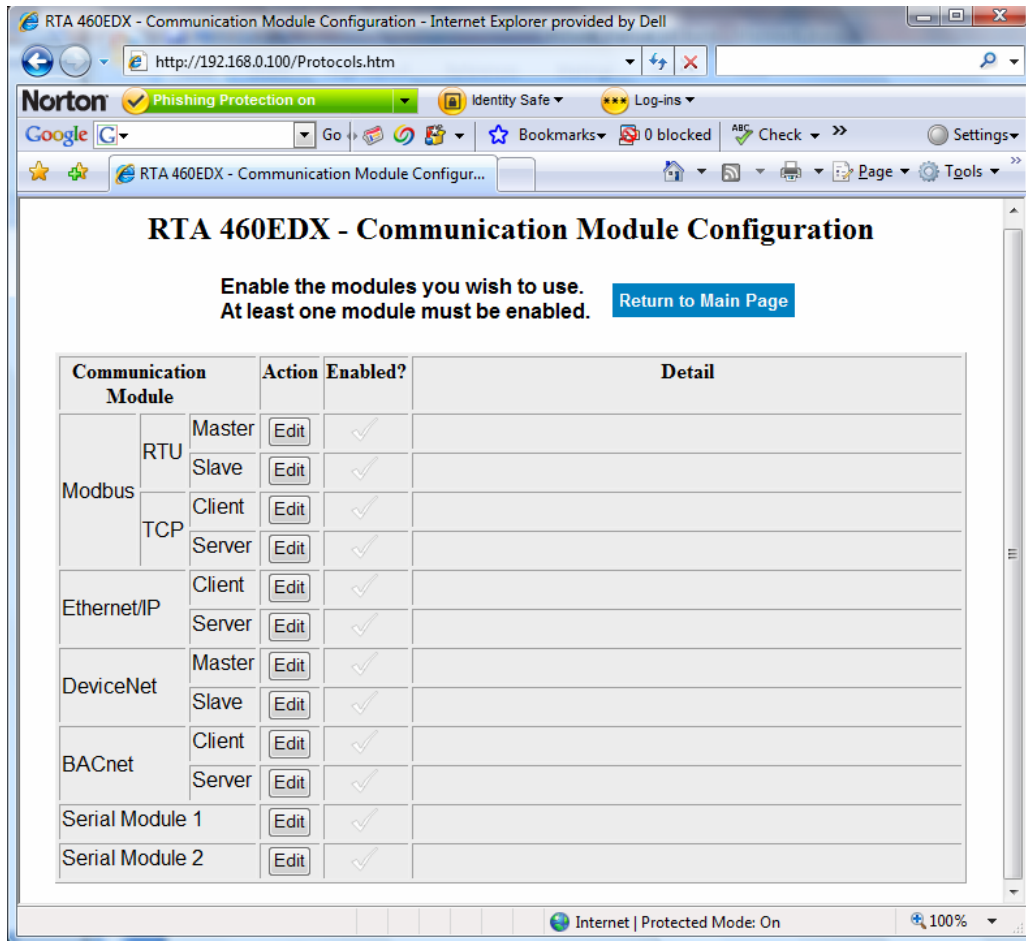

Figure 2-25 Communication Module Configuration screen
1. Click on Edit next to the **Selected Communication Modules** on the RTA 460 Gateway Main Page. See Figure 2-2. The **Communication Module Configuration** screen displays. See Figure 2-25.